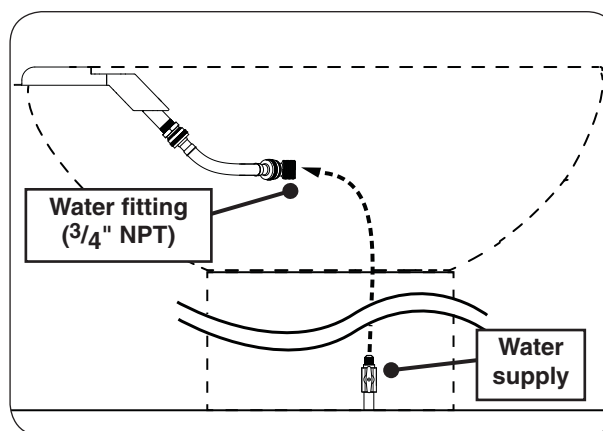

Fig. 30-2 Connect water supply (if applicable)
2. Plumb the water supply to the 3/4" NPT fitting (see Fig. 30-2).